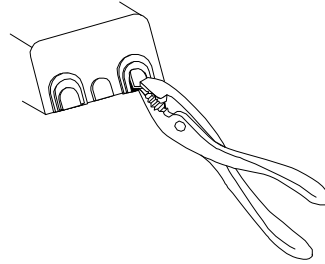

Figure 6: Removing Wire Entry Knockouts
7. Make wiring connections (refer to *Wiring* section). Remove the appropriate knockouts on the terminal cover for wire entry. See Figure 6.